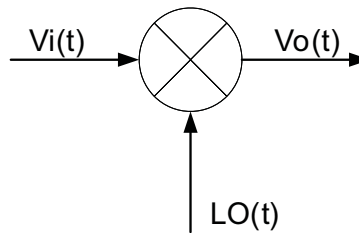

图 68. Block Diagram of Mixer Operation
The CW mixer in the AFE5812 is passive and switch based; a passive mixer adds less noise than an active mixer. It achieves good performance at low power. 图 68 and the equations describe the principles of mixer operation, where  $V_i(t)$ ,  $V_o(t)$ , and  $LO(t)$  are input, output, and local oscillator (LO) signals for a mixer respectively. The  $LO(t)$  is square-wave based and includes odd harmonic components, as shown in 公式 1.